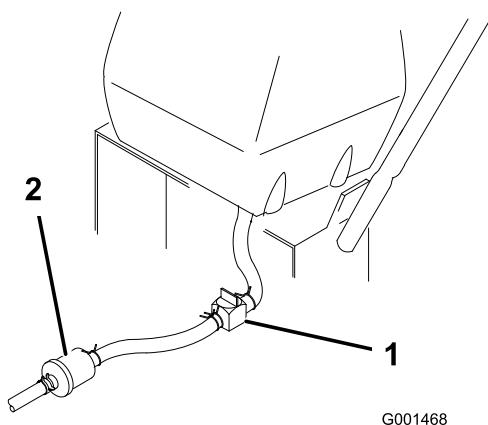

Figure 28
- Close the fuel shut-off valve at the fuel tank (Figure 28).
- Squeeze the ends of the hose clamp together and slide it up the fuel line away from fuel filter (Figure 28).
- Pull the fuel line off the fuel filter (Figure 28). Open the fuel shut-off valve and allow the gasoline to drain into a gas can or drain pan.
7. Open fuel shut-off valve at fuel tank (Figure 28).
3. Close fuel shut-off valve at the fuel tank (Figure 28).